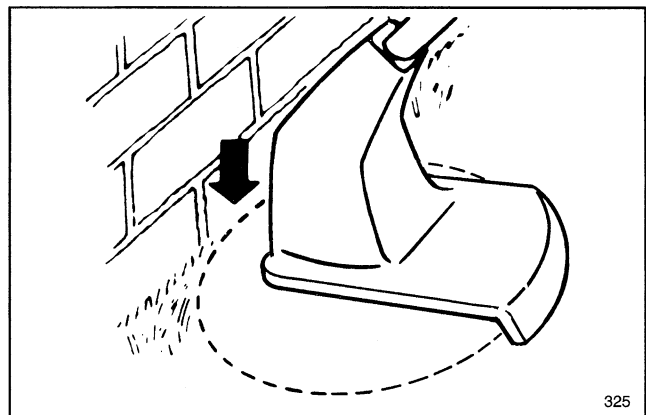

Figure 8
6. **DO NOT FORCE THE UNIT.** Allow the very *tip* of the nylon line to do the cutting (especially along walls) (Fig. 8). Cutting with more than the tip will reduce cutting efficiency and overload the motor.